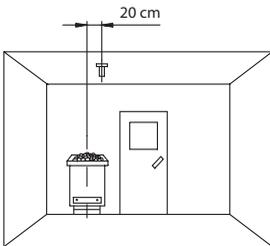

Fig. 7
1. Mount the oven sensor in cabins up to 2 x 2m according to Fig. 7 and 8, in larger cabins according to Fig. 7 and 9.